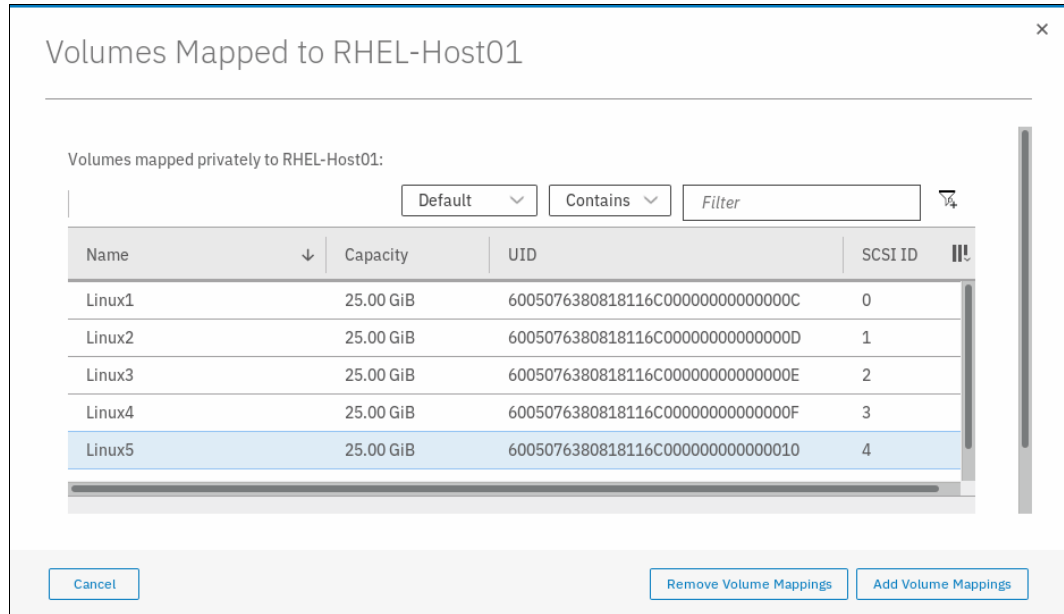

Figure 8-12 Selecting the volume to be unmapped
- Select the volume that you want to unmap and click **Remove Volume Mappings**, as shown in Figure 8-12.